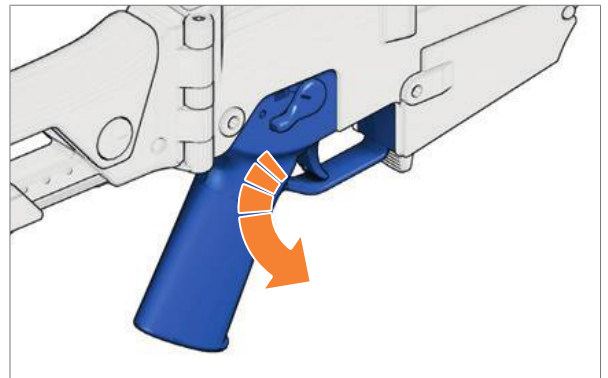

*Fig. 101: Remove rod*
2. Pull rod back and hold it (*Fig. 101*).
3. Pull rod upwards and forwards out of receiver (*Fig. 101*).